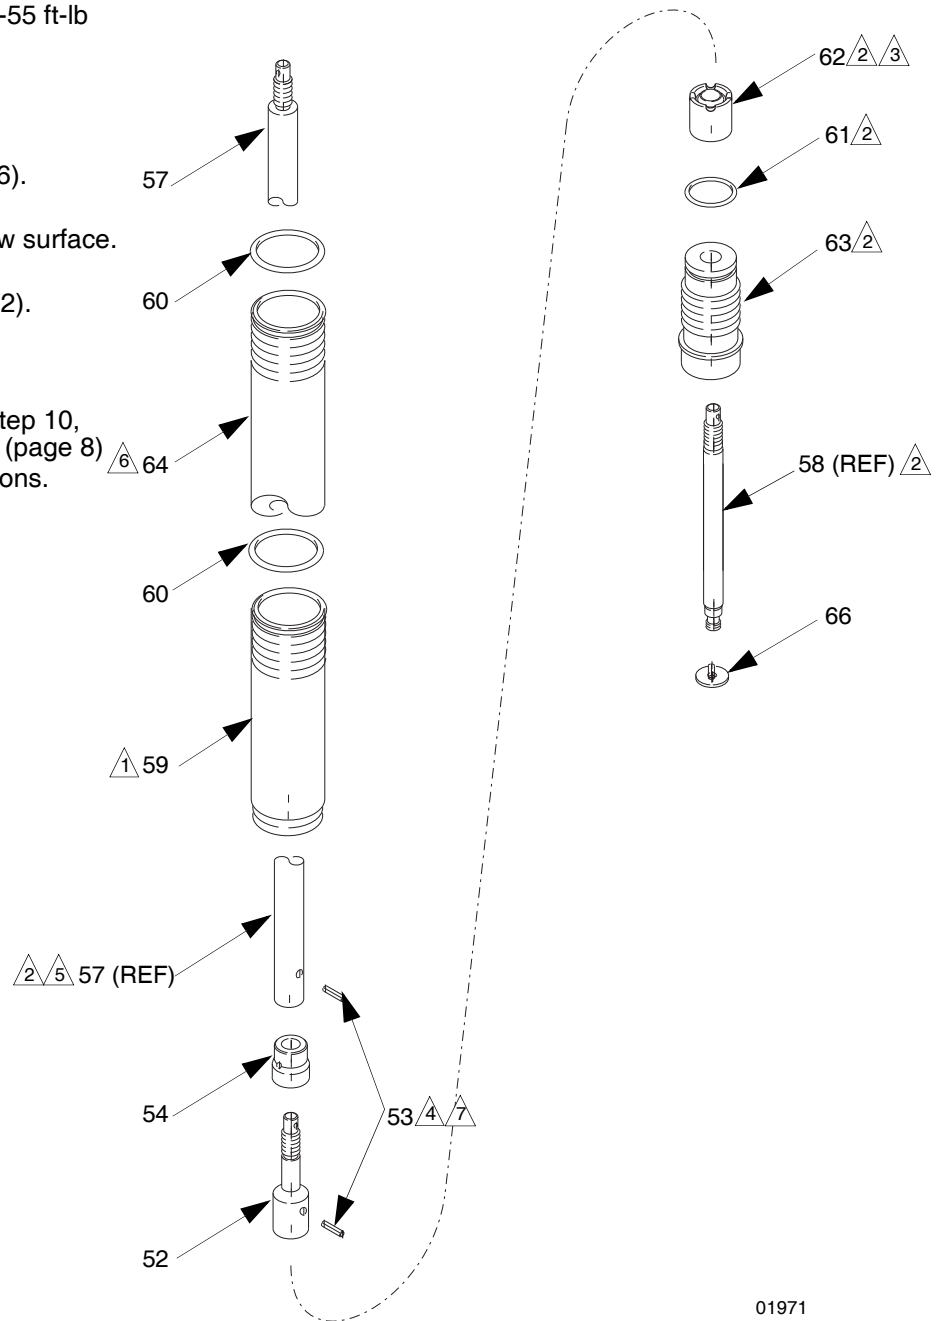

FIG. 4
3. Disconnect the hoses, remove the pump from its mounting, and clamp the air motor base (5) in a vise.
4. Use a strap wrench or pipe wrench on the extension tube (64) to unscrew it from the base (5). See Fig. 4.
5. Pull the extension rod (57) down as far as it will go, exposing the displacement rod (8).
6. Use a hammer and punch to remove the roll pin (74) from the displacement rod (8), and unscrew the extension rod (57) from the displacement rod.
7. Manually push on the displacement rod (8) to move the air motor piston (2) up as far as it will go. Unscrew the cylinder cap nut (29a or 29b). Pull the nut up. Grip the trip rod (11) with padded pliers, and unscrew the nut from the rod. See Fig. 4.
8. Remove the six screws (21) that hold the cylinder (17) to the base. Carefully pull the cylinder straight up off the piston (2).
2. Check the polished surfaces of the piston (2), displacement rod (8), and cylinder (17) wall for scratches or wear. A scored rod causes premature throat seal wear and leaking.
4. Install the new throat seal (6), **lips facing down**. Screw the packing nut (38) into the base (5).
5. Slide the displacement rod (8) down through the throat, and lower the piston (2) into the base (5). Be sure the o-rings (9, 10, and 24) are in place. See Fig. 4.